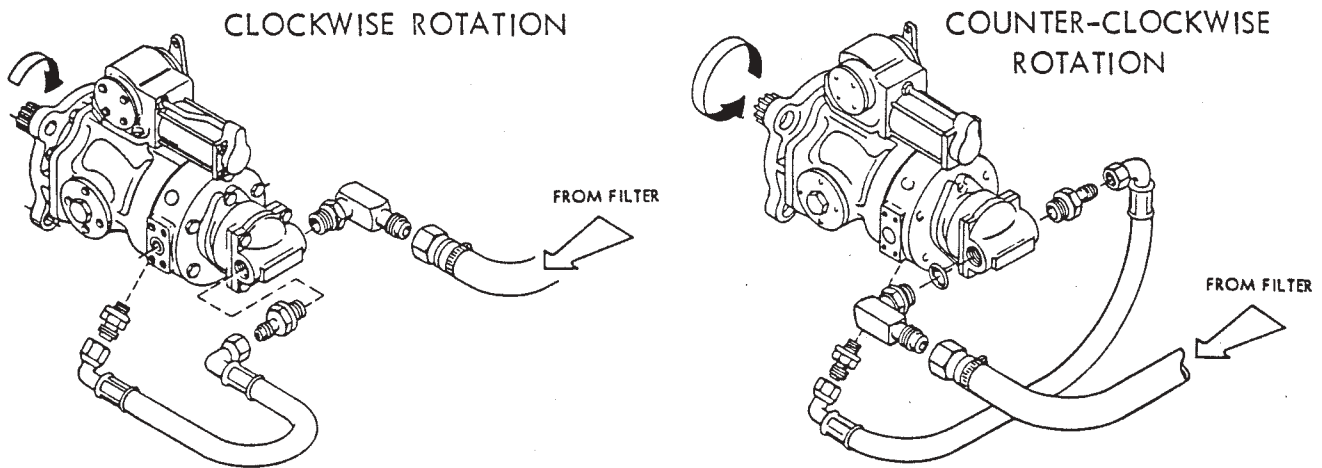

Figure 1. Hydrostatic Pump Rotation and Plumbing Connections
2. Check to see that the hydrostatic plumbing matches the direction of rotation of the hydraulic pump shaft (see Figure 1.).
2. Remove the plug on one pump trunnion (see Figure 1.).
3. Loosen the fitting on the charge pump outlet (see Figure 1.).